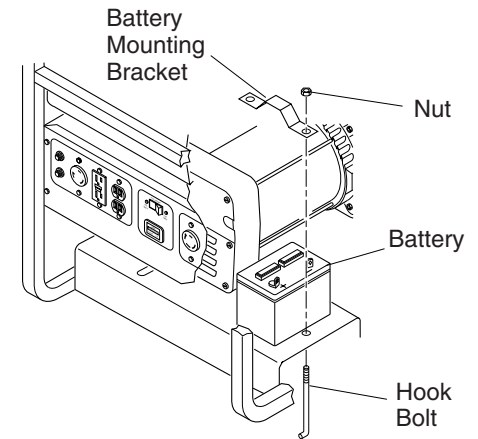

Figure 10 - Battery Hold-Down System (Model MGH7000C Shown)
1. Secure battery to generator by battery hold-down system. This system consists of the battery mounting bracket, hook bolts, and nut (see Figure 10).